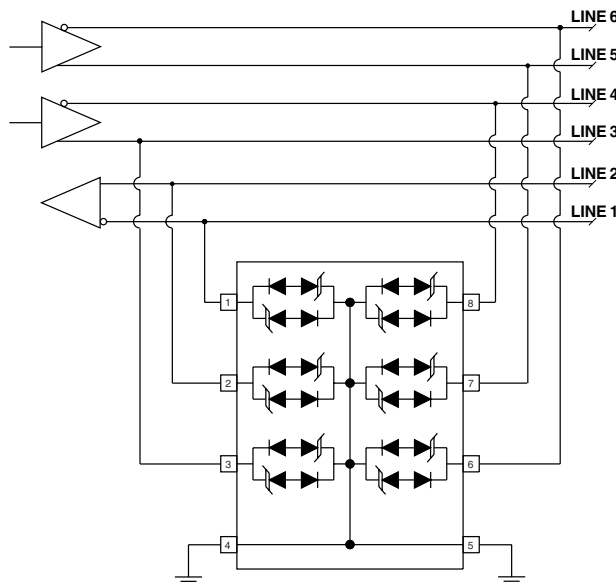

Figure 1: Typical Transceiver Protection Circuit
BIDIRECTIONAL COMMON MODE CONFIGURATION (Figure 1)
Ideal for use multimode transceiver I/O lines, the PLCDAxxC-6 Series provides up to six (6) lines of protection in a common mode configuration as depicted in Figure 1.